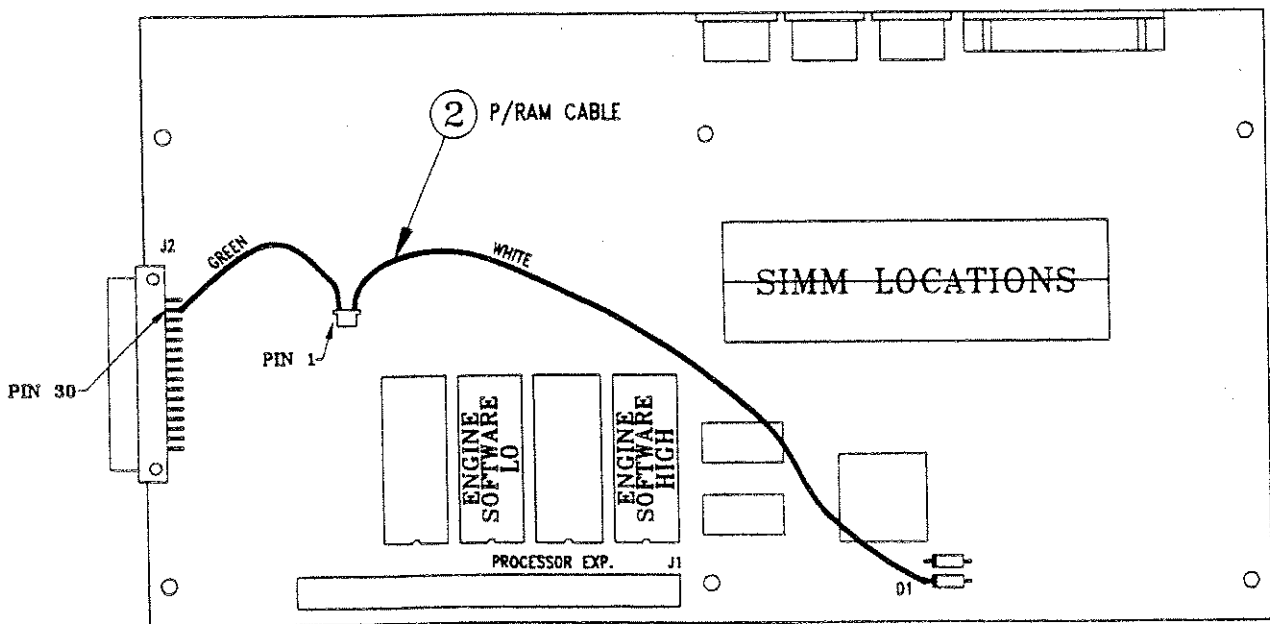

FIGURE 2
5. Figure 2 shows a closeup of the K2000 Engine board. Refer to figure 2 and locate Pin 30 on the Engine board connector labeled J2. Pin 30 is located toward the rear of the unit. (It is the second pin from the back edge of J2, in the row toward the center of the board.) Take the P-RAM Option kit cable (item 2) and solder its green wire to Pin 30.
7. Locate the 64-pin connector labeled "PROCESSOR EXP" (J1) near the left front corner of the Engine board. See figure 2.